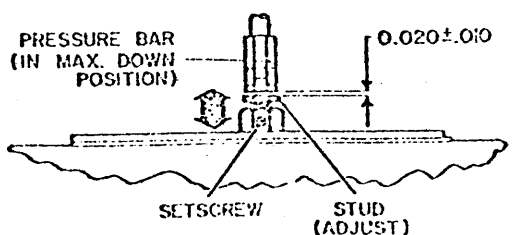

Fig. 3-190. Stud Collar
2. Loosen the setscrew (Fig. 3-190) and with the pressure bar in the maximum down position, adjust for a gap of between 0.015 and 0.030.